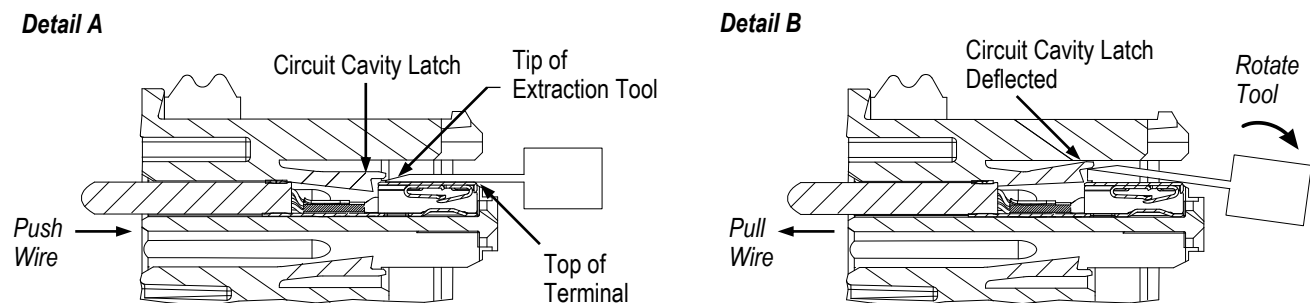

Figure 6
3. Hold the wire in place and, from the mating face of the connector, insert the tip of removal tool 3-1579007-6 into the circuit cavity so that it is located between the circuit cavity latch and the top of the terminal. See Figure 6, Detail A. *Gently* push the tool and rotate it toward the terminal to deflect the circuit cavity latch. See Figure 6, Detail B.